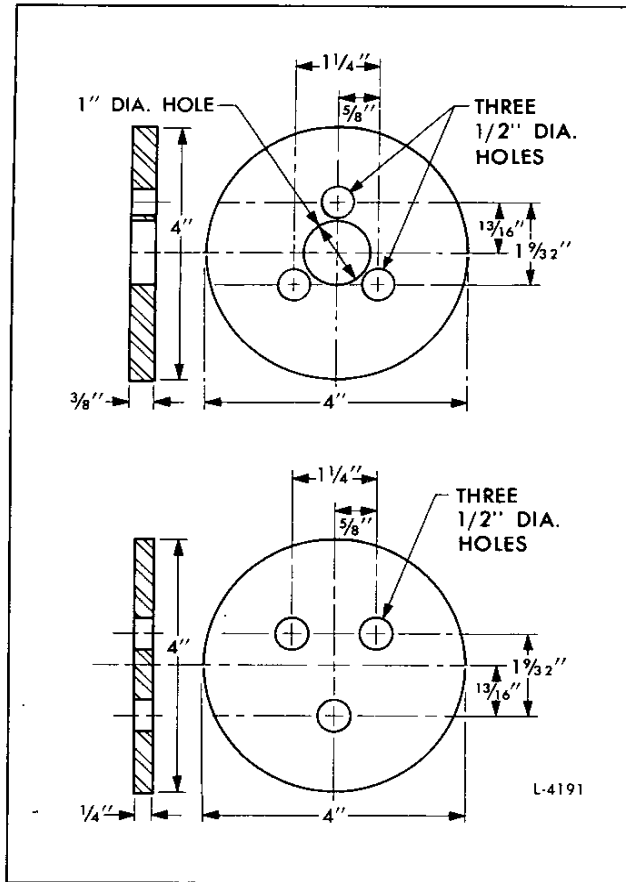

Fig. 10 – Plates for Bearing Test Fixture
3. Place the steel plate (lower plate shown in Fig. 10) against the hub and bearing. Insert two 3/8"-16 bolts and one 5/16"-18 bolt through the plate and thread it into the cylinder block. Tighten the two 3/8"-16 bolts to 40–45 lb-ft (54–61 N·m) torque and the 5/16"-18 bolt to 19–23 lb-ft (26–31 N·m) torque.
If the crankshaft and camshaft gears are mounted on the engine, a suitable fixture which may be held in a vise can be made with two plates (Figs. 10 and 12). One of the plates is used to take the place of the flywheel housing and the other the cylinder block. *Engine-mounted* conditions are simulated by tightening the 3/8"-16 attaching bolts and nuts to 40-45 lb-ft (54-61 N·m) torque.
2. Clamp the idler gear assembly and fixture in a vise (Fig. 10).